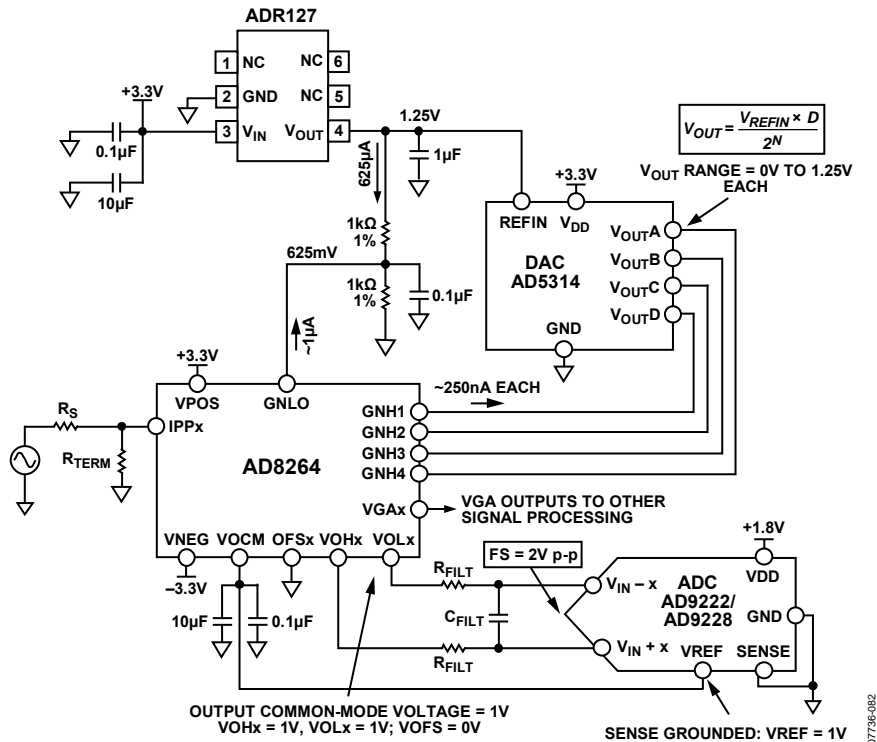
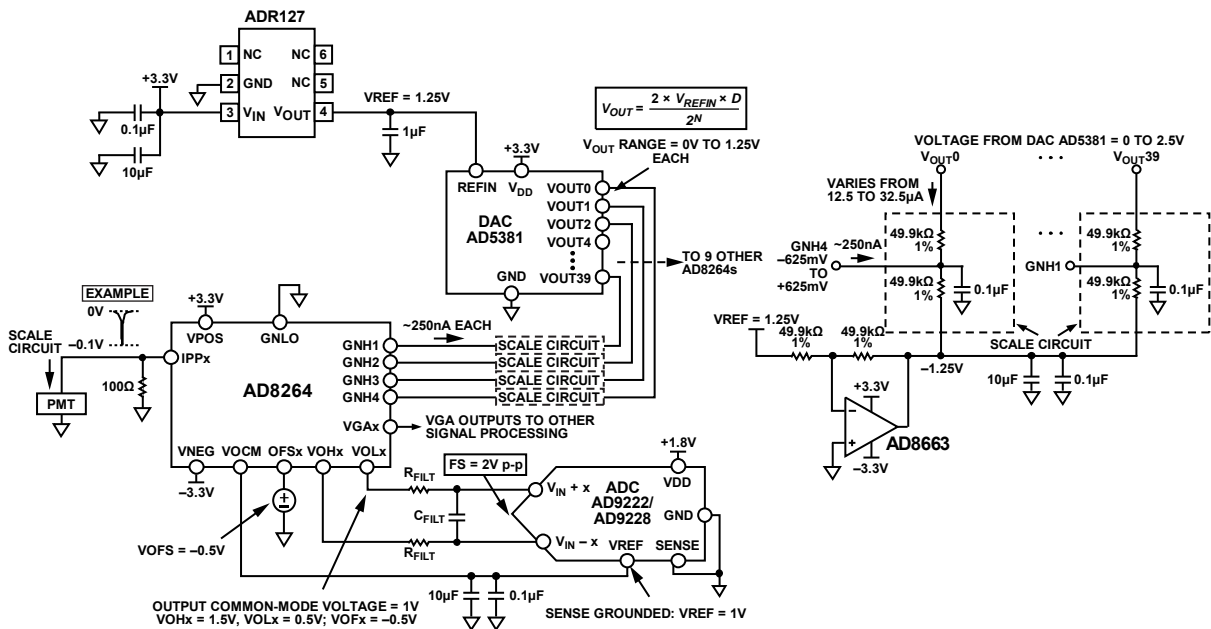

Figure 112. Application Concept of the AD8264 with the AD5314 10-Bit DAC and the AD9222/AD9228 12-Bit ADC
Figure 113. Concept Application of AD8264 with 40-Channel AD5381 12-Bit, 3 V DAC and AD9222/AD9228 12-Bit ADC
The AD8264 is particularly well suited for use in the analog front end of medical PET imaging systems. Figure 112 shows how to use the AD8264 with the AD5314 (a 4-channel, 10-bit DAC) and the AD9222/AD9228 (an octal or quad, 12-bit ADC, respectively). The DAC sets the gain of the AD8264. Note that the full gain span of 24 dB is achieved with this setup because the gain control input range of the AD8264 is very close to 1.25 V. The GNLO pin must offset by $1.25/2 = 625$ mV because the gain control input is bipolar around the voltage applied at GNLO. This is done with two 1 kΩ, 1% resistors. The approximately 1 μA of bias current flowing from the GNLO pin does not contribute a significant error because the basic gain error of the AD8264 is the limiting factor.
Figure 112 also includes the DAC output equation, which indicates that the output can vary between 0 V and $V_{REF} = 1.25$ V.
The single-ended-to-differential amplifier of the AD8264 amplifies the VGA output signal by 6 dB and can provide the required dc bias of the AD9222/AD9228, as shown in Figure 112. The ADC is connected with the default internal reference because the SENSE pin is grounded. With this connection, the AD9222/AD9228 VREF pin is an output that provides 1 V; this is then connected to the VOCM input of the AD8264, which sets the output common-mode voltage of the VOHx and VOLx pins to 1 V. This voltage is very close to the recommended optimal value of $V_{DD}/2 = 0.9$ V. With this configuration, the ADC inputs are set to a full-scale (FS) of 2 V p-p.
The dc connected concept example in Figure 113 is an application with the 40-channel AD5381, 3 V, 12-bit DAC. The main difference between this example and Figure 112 is that, for the same ADR127 1.25 V reference, the full-scale output of the DAC is from 0 V to $2 \times V_{REFIN} = 2.5$ V. Two options for gain control include the following:
- Use the same circuit as in Figure 112 but use only half the DAC output voltage from 0 V to 1.25 V. This is the simplest solution, requiring the fewest extra components. Note that the overall gain resolution increases by one bit to 11 bits over the 10-bit AD5314.
- Ground GNLO and scale the DAC output so that the GNHx inputs vary from -0.652 V to $+0.625$ V. Figure 113 shows a possible circuit implementation using a divider between the DAC output and a -1.25 V reference.
Figure 113 shows how the AD8264 is connected in a PET application. The PMT generates a negative-going current pulse that results in a voltage pulse at the preamplifier input and a differential output pulse on VOLx and VOHx.
A convenient method of verifying and customizing the signal chains shown in Figure 112 and Figure 113 is by ordering the corresponding evaluation boards available on www.analog.com. The AD8264-EVALZ is a platform through which the user can quickly become familiar with the features and performance capabilities of the AD8264. See the Evaluation Board section for more information.